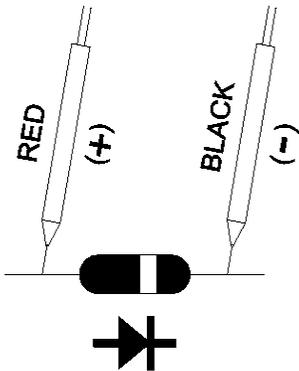

Fig.2
- 5) a. When connected with polarity as shown in Fig. 2, a forward current flow is established and the approx. Diode Forward Voltage (VF) value in volt will appears on the display reading. If the diode under test is defective, " 0.000 " or near " 0.000 " value ( short circuit ) " - - - - " ( open circuit ) will be displayed.